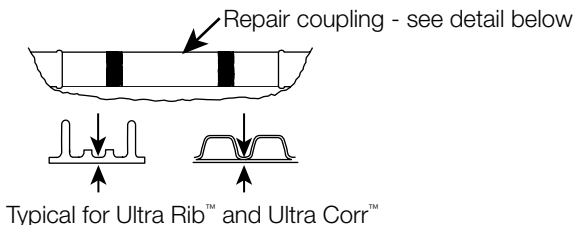

Figure 22
2. Move the half length into line and grade and position the couplings for final tightening. (Figure 22)